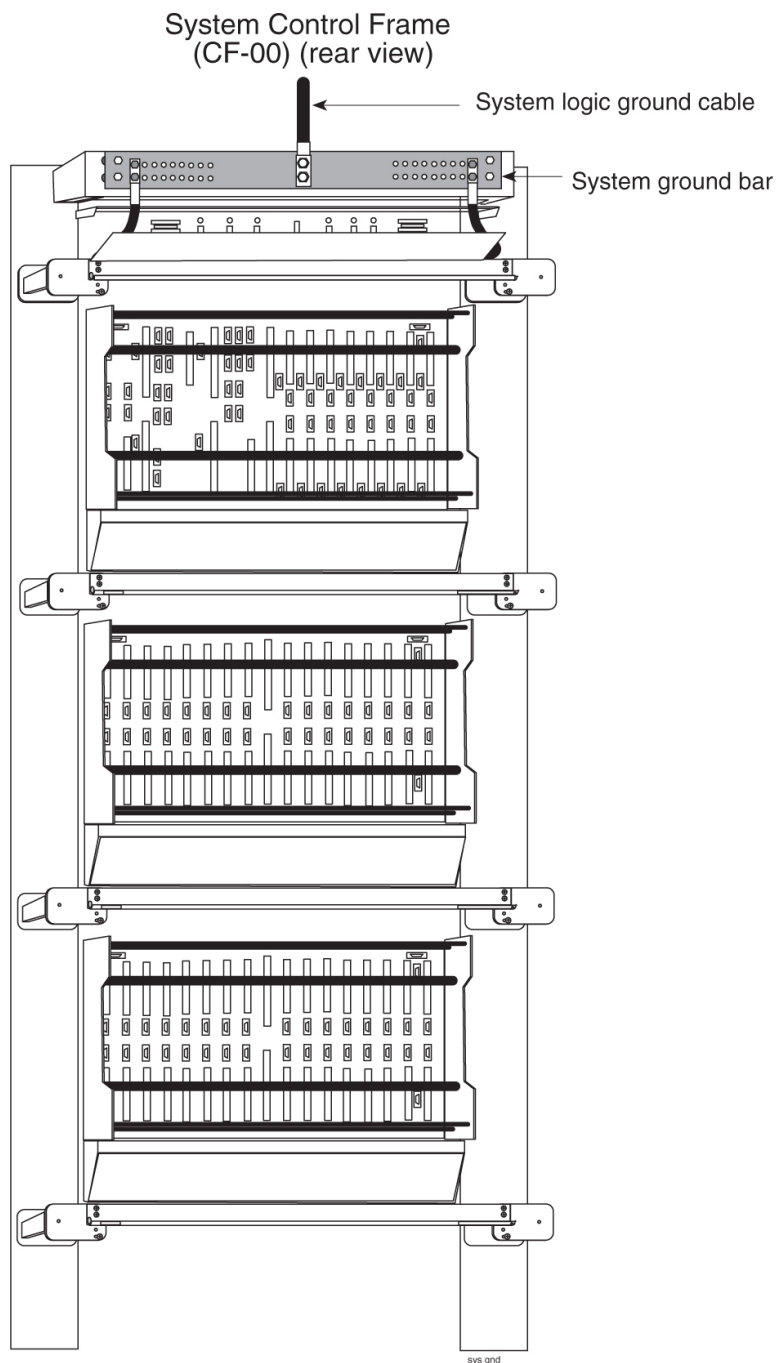

Figure 53: System Logic Ground Bar and Cable
6. Install the logic ground cable lugs P/N 804-0817-R02 using the 1/4-inch 20 copper-plated hardware provided (refer to Figure 53: System Logic Ground Bar and Cable).